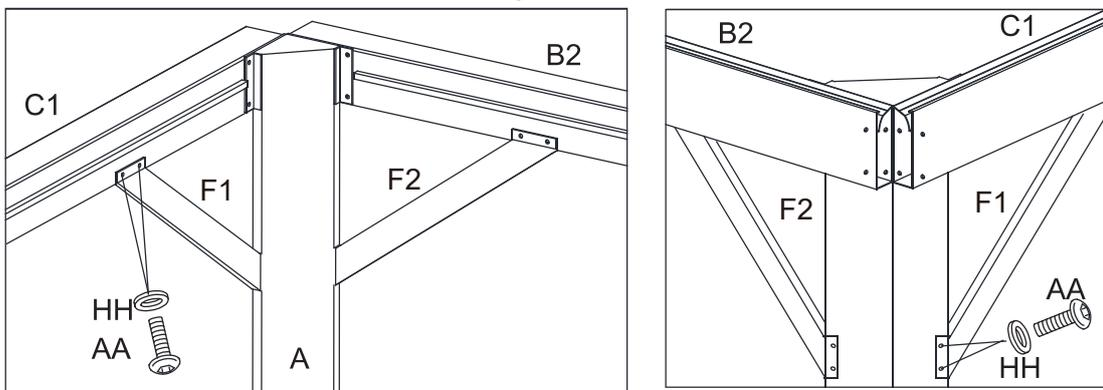

Figure 5.2
5.2. Attach Support Bars (F1/F2) to the Corner Post (A) and the Lintels (C1/C2) with Bolts (AA) and washer (HH). See Figure 5.2.